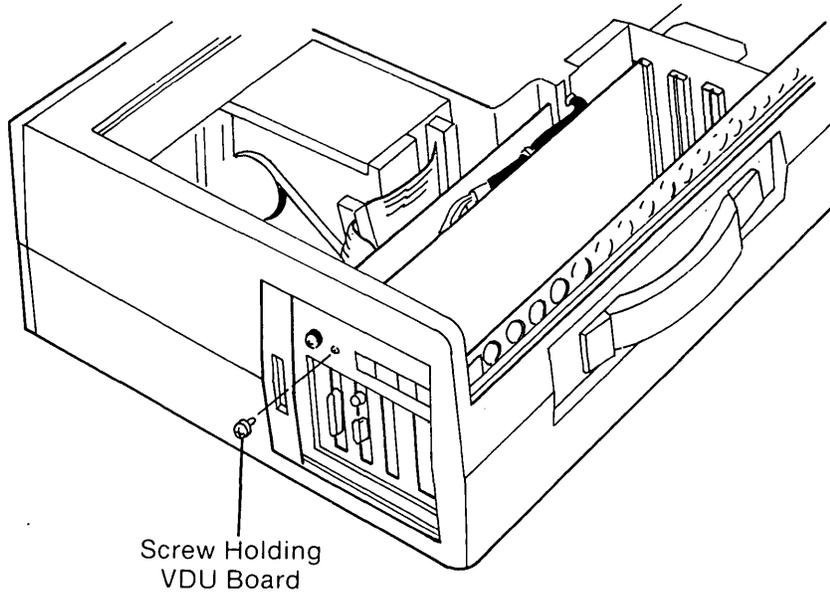

Figure 7-15. Removing the Screws Which Hold the VDU Adapter Board.
- 5 Remove the retaining screw that secures the VDU adapter board to the system chassis (see Figure 7-15).